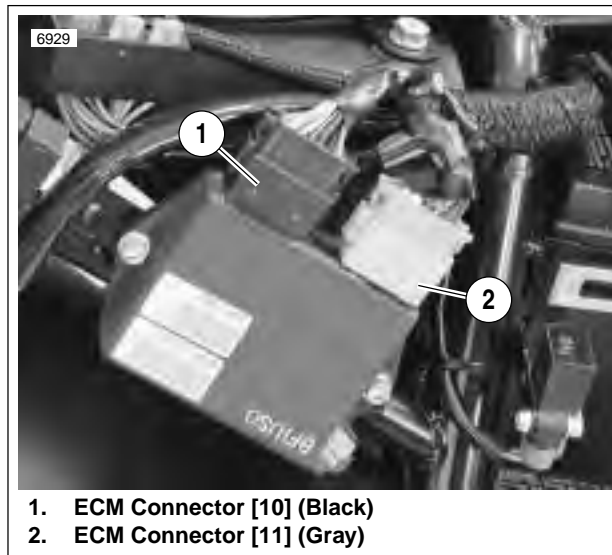

Figure 4-13. ECM Connectors (S3 Shown)
1. See Figure 4-13. Remove seat and tail section. See 2.33 TAIL SECTION.